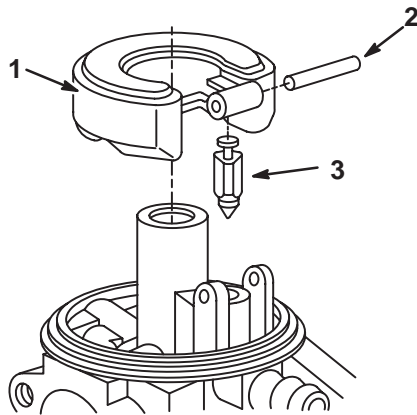

Fig. 29 – Installing Float, Hinge Pin and Inlet Needle
- Place fiber washer over main jet and install main jet. Torque nut to 50 in. lbs. (6.0Nm), Fig. 29.